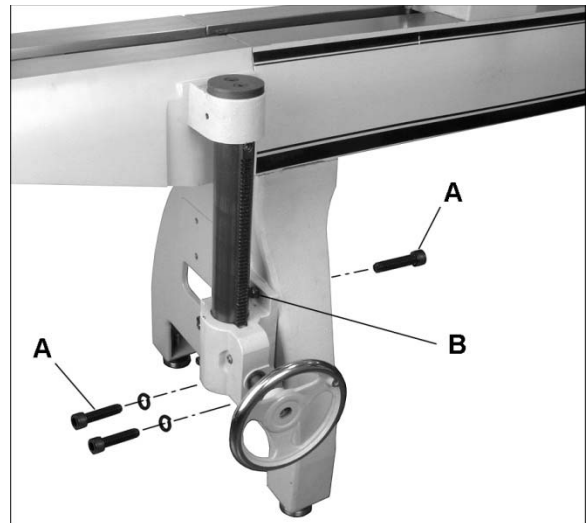

Figure 17
4. Install elevating system (Figure 17) to bed extension with four 3/8" screws and washers, and to lathe leg with three 1/2" screws and washers (A, Figure 17). Note that top screw is installed from *inside* the leg and secured with the nylon nut (B). Refer to exploded view, section 17.5.1 if clarification is needed.